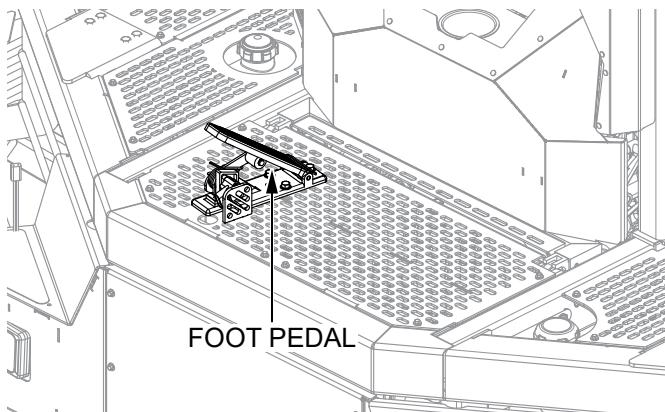

Figure 43. Foot Pedal
2. Depress the **foot pedal** (Figure 43) to raise the rotor speed to the set speed.